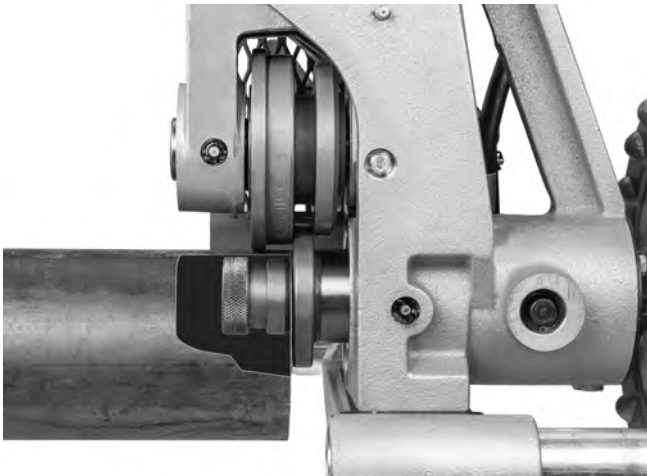

Figure 12 – Placing Pipe over Drive shaft, Flush to drive shaft flange (Stabilizer removed for clarity)
3. Appropriate pipe stands must be available to support the pipe. Adjust the height of the pipe stands so that the pipe will be level and the top inner diameter of the pipe will sit on top of the drive roll (see *Figure 12*).
4. Place the pipe on the stand(s) with the end of the pipe flush to the drive shaft flange and the inside of the pipe contacting the top of the drive shaft (Figure 12). Make sure the pipe is stable and secure.